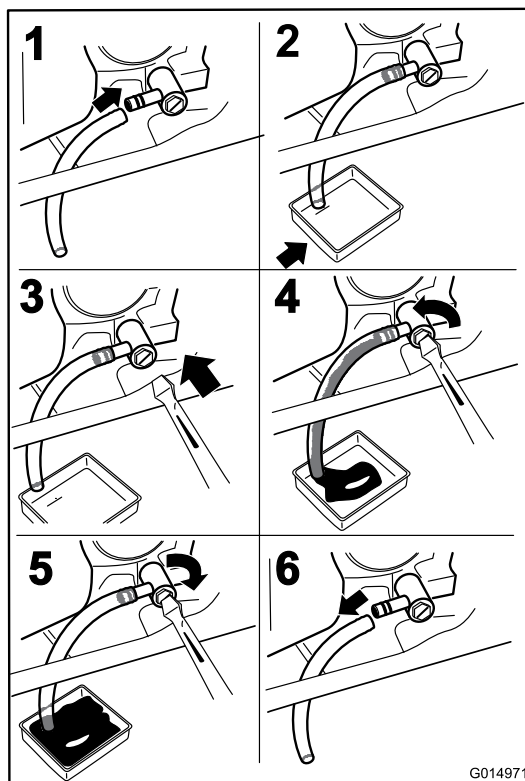

Figure 31
4. Stop the engine, remove the key, and wait for all moving parts to stop before leaving the operating position (Figure 31).